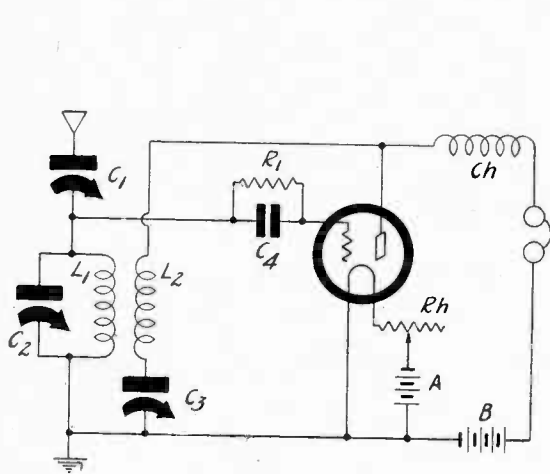

FIG. 1
In Fig. 1 we have about the simplest one-tube receiver that can be constructed, that is, if it is to be built for sensitivity. It utilizes a filament type tube in which the filament current is only 60 milliamperes. The coupling between the antenna and the tuned circuit is direct, with a small, adjustable condenser, C1, in the antenna lead to increase the selectivity. A condenser of 110 mmfd. capacity is all
- L, L1—One radio frequency tuning coil as described in connection with Fig. 1
### LIST OF PARTS (Fig. 1)